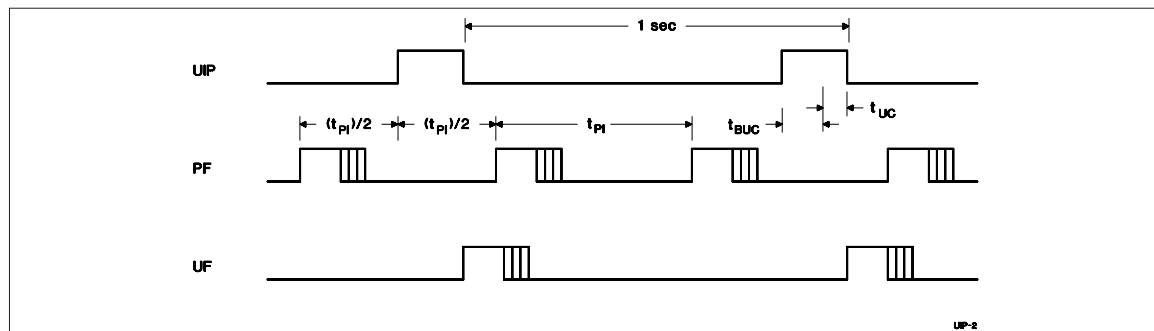

Figure 3. Update-Ended/Periodic Interrupt Relationship
- Enable the update interrupt event to generate interrupt requests at the end of the update cycle. The interrupt handler has a maximum of 999ms to access the clock bytes before the next update cycle begins (see Figure 3).
- Poll the update-in-progress bit (UIP) in register A. If $UIP = 0$, the polling routine has a minimum of t_{BUC} time to access the clock bytes (see Figure 3).
- Use the periodic interrupt event to generate interrupt requests every t_{PI} time, such that $UIP = 1$ always occurs between the periodic interrupts. The interrupt handler has a minimum of $t_{PI}/2 + t_{BUC}$ time to access the clock bytes (see Figure 3).